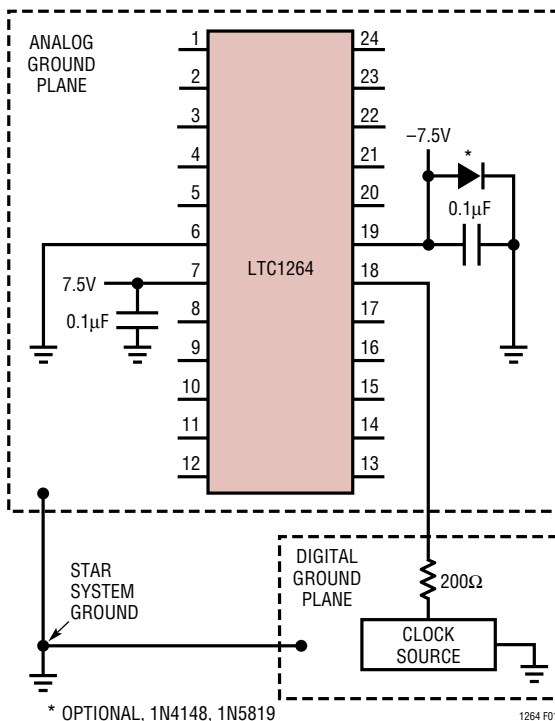

Figure 1. Dual Supply Ground Plane Connections
**V+, V- (Pins 7, 19):** Power Supply Pins. The V+ (Pin 7) and the V- (Pin 19) should each be bypassed with a 0.1μF capacitor to an adequate analog ground. The filter's power supplies should be isolated from other digital or high voltage analog supplies. A low noise linear supply is recommended. Using a switching power supply will lower the signal-to-noise ratio of the filter. The supply during power-up should have a slew rate less than 1V/μs. When V+ is applied before V- and V- is allowed to go above ground, a diode should clamp V- to prevent latch-up. Figures 1 and 2 show typical connections for dual and single supply operation.
A pulse generator can be used as a clock source provided the high level on-time is greater than  $0.2\mu s$ . Sine waves are not recommended for clock input frequencies less than 100kHz, since excessively slow clock rise or fall times generate internal clock jitter (maximum clock rise or fall time  $\leq 1\mu s$ ). The clock signal should be routed from the right side of the IC package and perpendicular to it to avoid coupling to any input or output analog signal path. A  $200\Omega$  resistor between clock source and Pin 11 will slow down the rise and fall times of the clock to further reduce charge coupling (Figures 1 and 2).